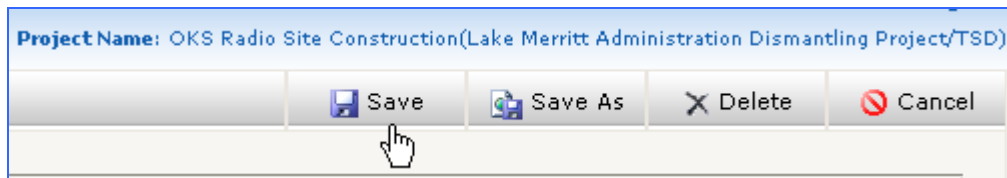

Figure 60 – Click on Save Screen
4. **To Edit:** Follow steps 1 and 2. Make any changes to the information and click “Save” (Figure 60). This will return your web browser to the Manage Fringe Benefit Packages Screen.